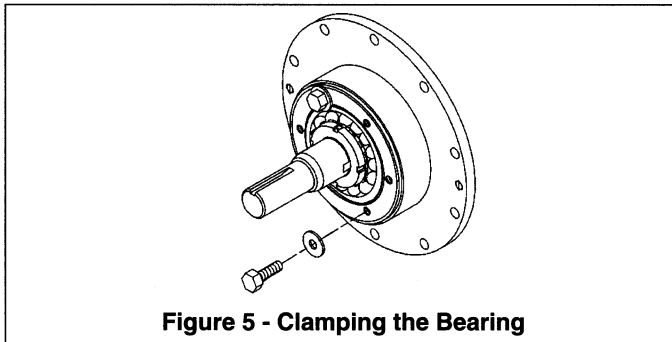

Figure 5 - Clamping the Bearing
5. Hand pack the ball bearing (24) with grease. Refer to the "Lubrication" section for the recommended grease.
6. Install the bearing into the head recess. The bearing balls should face outward, with the grease shield inward. Ensure the bearing is fully and squarely seated against the mechanical seal. (Installation tip: Install two 3/8" (10 mm) washers and two bearing cover capscrews (28) to clamp the bearing and compress the mechanical seal for proper bearing locknut adjustment (see Figure 5). The washers and capscrews will be removed after the locknuts are adjusted.)